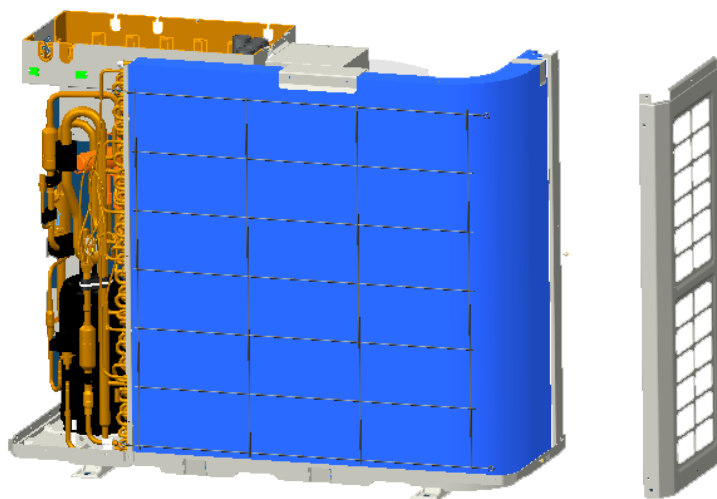

Fig. 5
- Loosen the two tapping screws, and remove right side plate. [See Fig.5]